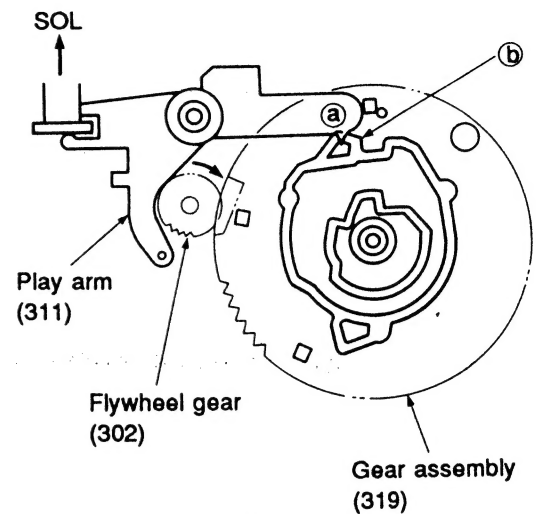

Fig. 1
2. The solenoid is energized for 200 ms, and stop (a) of play arm (311) is released from stop (b) of gear assembly (319). (Fig. 1)